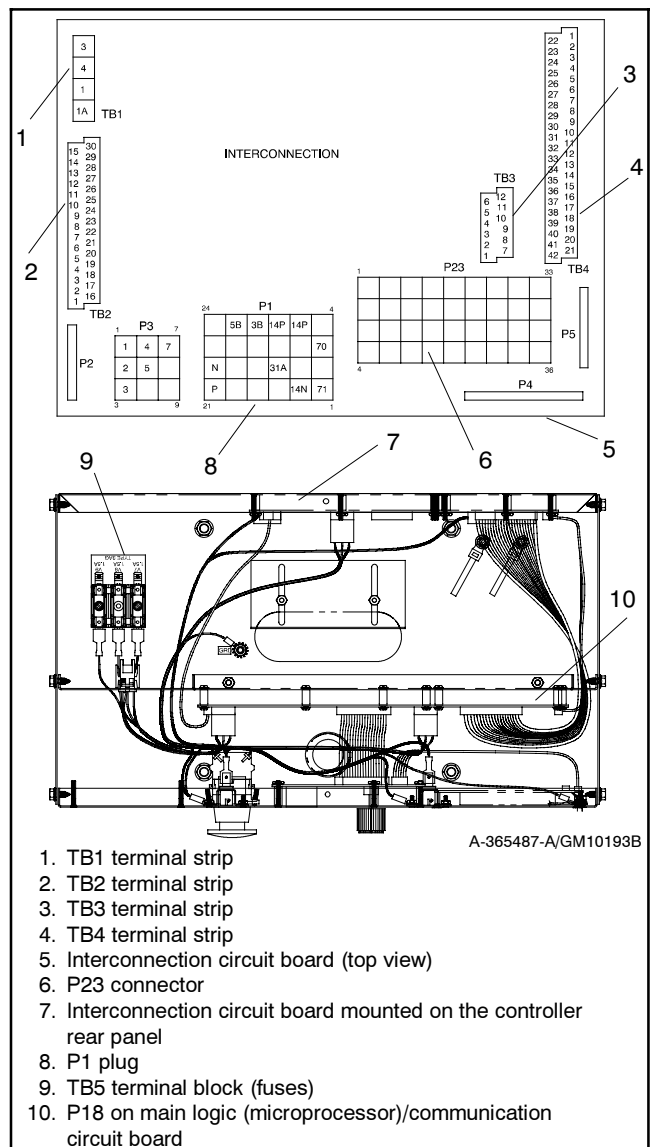

Figure 6-2 Disconnecting Controller Circuit Board External Wiring Connections
- a. Remove the controller cover. If access to the interconnection circuit board on the rear panel and/or the main logic/communication circuit board on the front panel is difficult, partially disassemble the controller box. Remove the two controller panel top screws and center bottom screw and then loosen the bottom panel screw on each side to swing the controller panel down. See Figure 6-2.
b. Disconnect the 550 controller harness leads. Listed below are some common leads and plugs that require removal or disconnection. Items below in **bold** are shown in Figure 6-2. These connections are typical and may not apply to all situations. See the corresponding wiring diagram found in the wiring diagrams manual.
a. Remove the controller cover. If access to the interconnection circuit board on the rear panel and/or the communication circuit board on the front panel is difficult, partially disassemble the controller box. Remove the two controller panel top screws and center bottom screw and then loosen the bottom screw on each side to swing the controller panel down. See Figure 6-2.